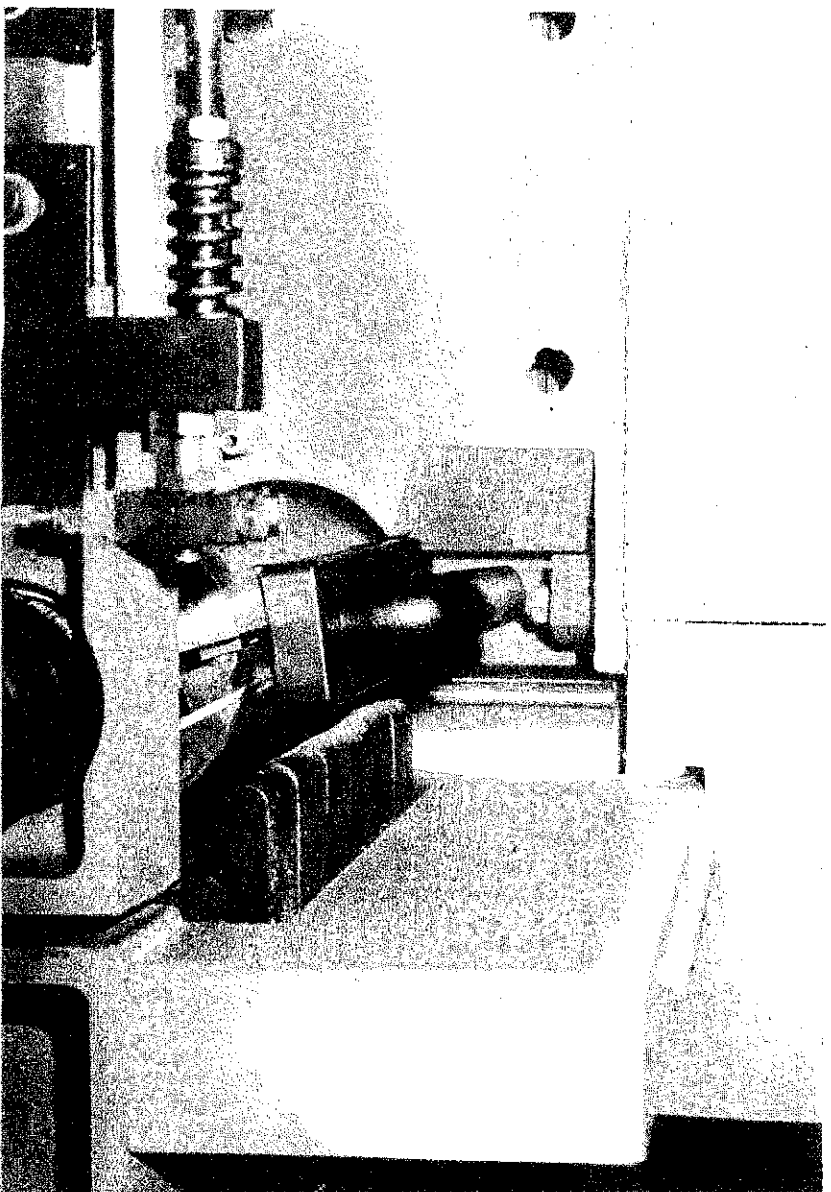

FIG. 38
- e) Place setting device over knife FIG.38, press setting device down until feet on setting device locate on cutterblock. Knife is now correctly set at 1mm cutter projection.